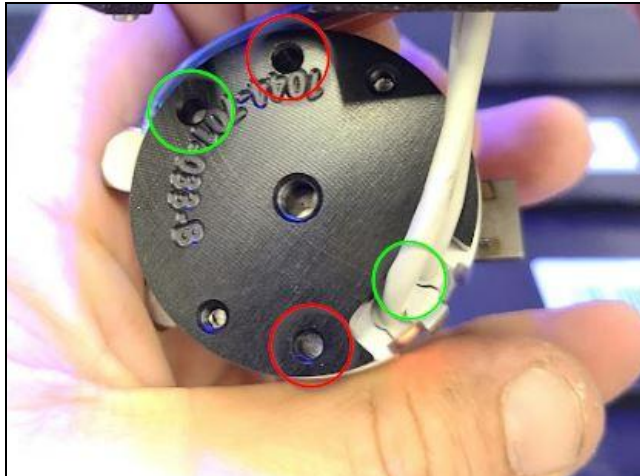

Figure 3.
3. The honeycomb plate, in standard orientation, is mounted to the two dowel pins on the bottom of the mount using the holes circled in red in Figure 3 below.
4. Rotate the gripper clockwise until the back dowel hole (green circle on upper left in Figure 3) fits the back dowel pin.
5. The front dowel pin should be approximately in between the two sensor wires (green circle on lower right of Figure 3).